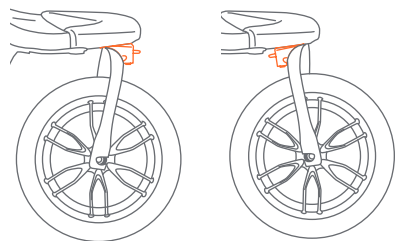

Fig. 14a
- 14) • The front wheel is equipped with a swivel locking device and engage in front or back (Fig. 14a).